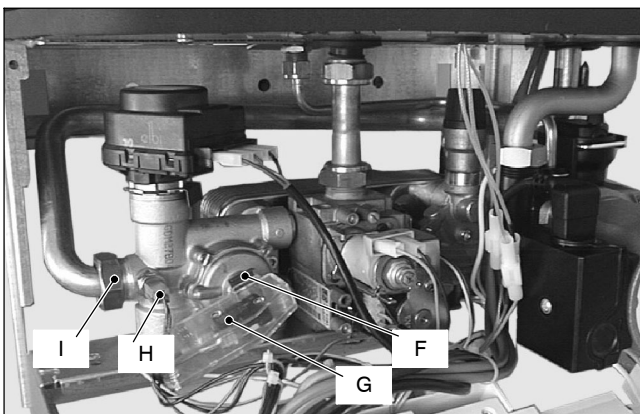

Fig. 5
- 4 Remove the fixing spring *F* (Fig. 5) and remove the primary circuit flow switch *G*.